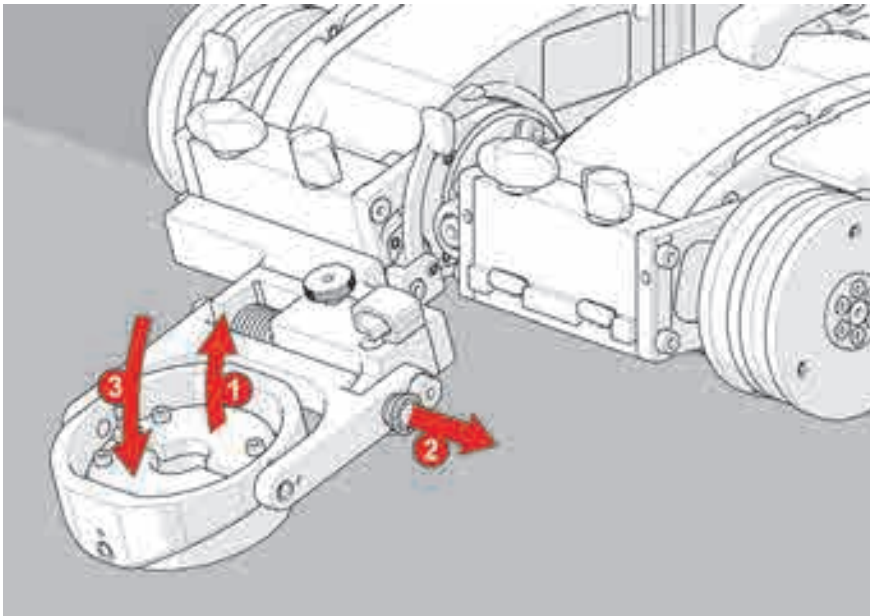

Figure 4-101 Pull probe latch to release dual conventional UT probe holder
11. Gently lift the probe holder (see Figure 4-101 on page 166 [1]).
12. Pull the probe holder latch (see Figure 4-101 on page 166 [2]).
13. Lower the probe holder gently to the scan surface (see Figure 4-101 on page 166 [3]).